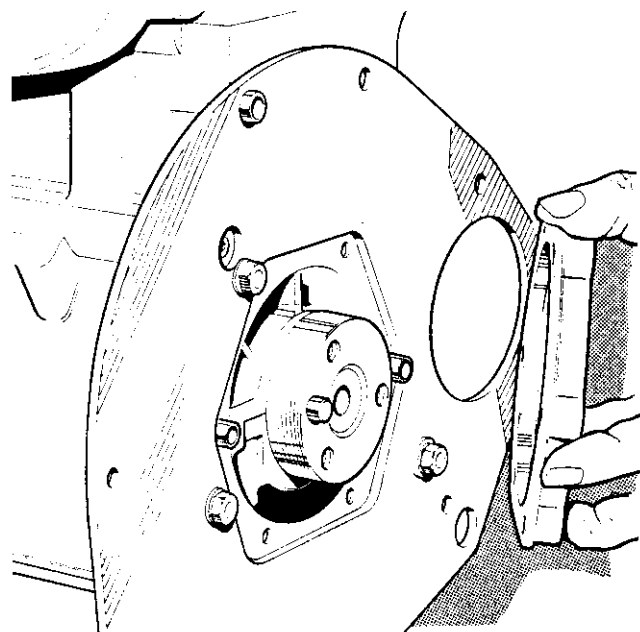

Figure 8 Fitting rear cover
4. Locate the two dowels of the rear cover in the cylinder block and then secure the cover with the six set screws and lock washers. (**Figure 8**)